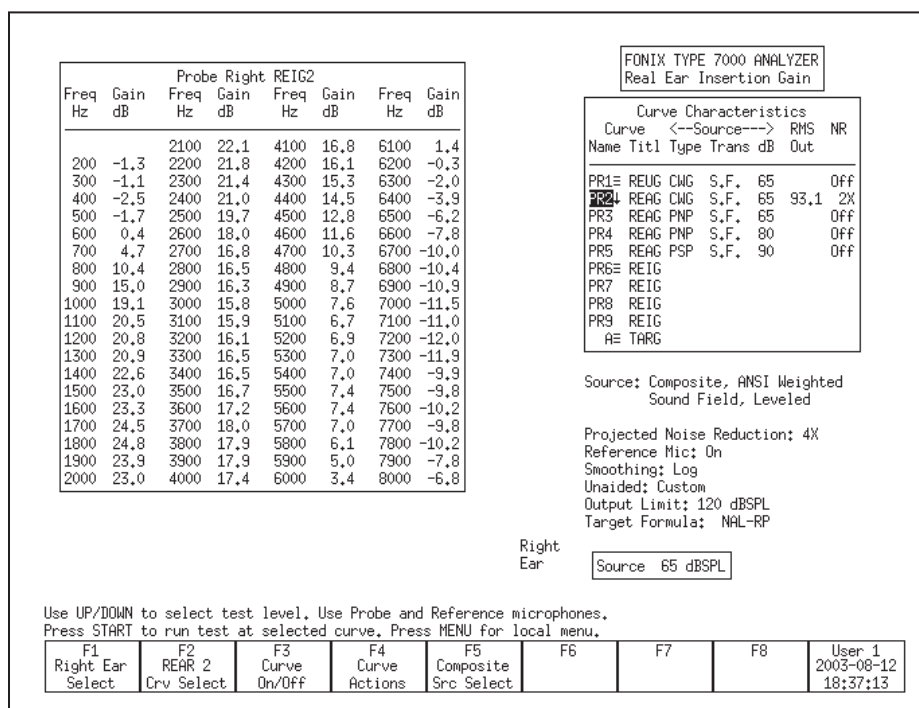

Figure 6.4.9—Insertion Gain data format display
5. Press [EXIT] to return to the Insertion Gain screen. Instead of the measurement graphs, you will now see tables of numerical data. See Figure 6.4.9.